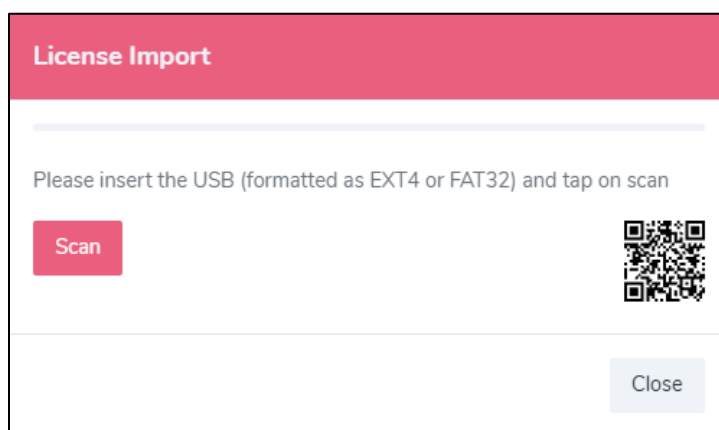
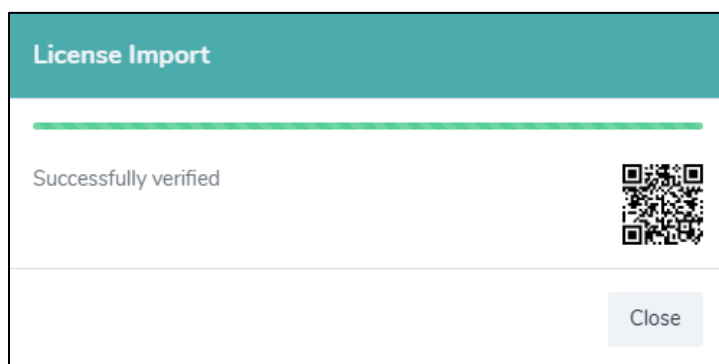

Figure 103
Figure 104
2. **Register with a License File:** If a license file has been provided, copy it to a USB flash drive and insert the USB into the USB-A port of the Freeze Dryer on the right side of the screen. Then, tap on the “Import License” button. Tap “Scan” on the License Import window (Figure 103) and wait till the license is validated (Figure 104).